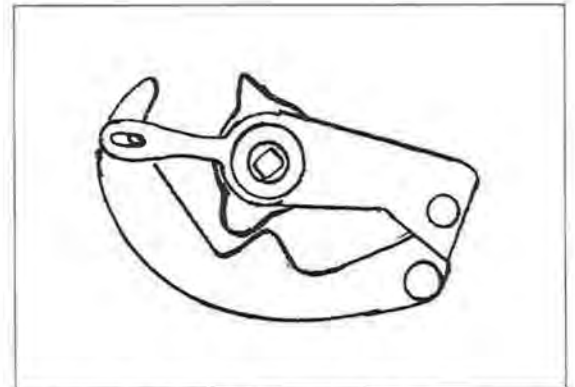

Figure 13. Initial set up of the snap-action mechanism.
2. With **no power** on the mainspring, backwind the winding arbor in a clockwise direction to position the snap-action cam in relation to the snap-action lever as shown in the initial setup of Figure 13. Be sure to hold the snap-action lever in a raised position when making this initial setup.